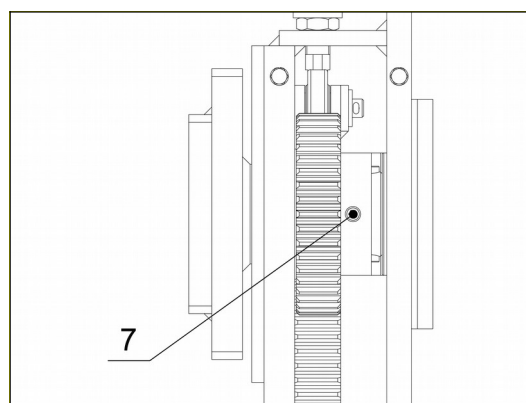
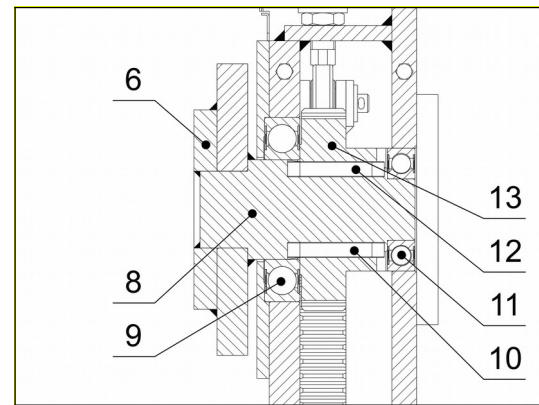

Fig. 66
Fig. 67
3. Secure the gear (Fig. 67, No. 13) against falling.
4. Remove the bolts (Fig. 66, No. 7) and slide out the shaft (Fig. 67, No. 8), remove the pins (Fig. 67, No. 10) and (Fig. 67, No. 12) when pulling the shaft (Fig. 67, No. 8) out.
5. Remove the gear (Fig. 67, No. 13).
6. Remove the bearing (Fig. 67, No. 11).
7. Mount back new bearing (Fig. 67, No. 11).
8. Reinsert the gear (Fig. 67, No. 13) into which prepare the pins (Fig. 67, No. 10) and (Fig. 67, No. 12).
9. Reinsert the shaft (Fig. 67, No. 8), when inserting mount the pins (Fig. 67, No. 10) and (Fig. 67, No. 12) back into their original positions.
10. Secure thoroughly the shaft (Fig. 67, No. 8) with bolts (Fig. 66, No. 7).